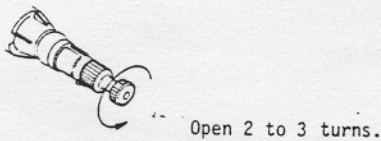

Fig. 19
- 1) Open the needle-valve 2 to 3 turns from the fully closed position (Fig. 19).